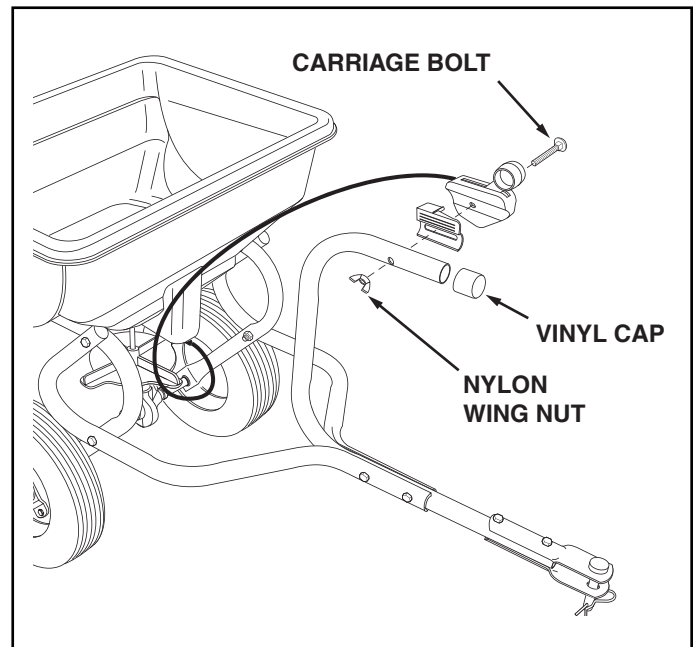

FIGURE 4
6. Assemble the vinyl cap onto the Hitch Control Tube. See figure 4.
7. Assemble the Control Cable to the Hitch Control Tube using the carriage bolt and nylon wing nut. See figure 4.